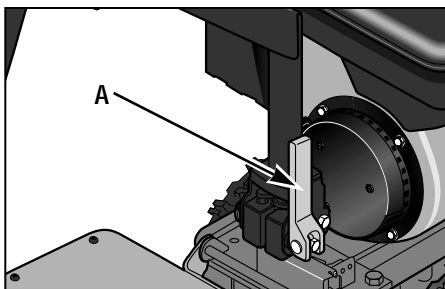

Fig. 4-5
3. Lift up the handlebar locking lever (A, Fig. 4-5) to unlock the handlebar.